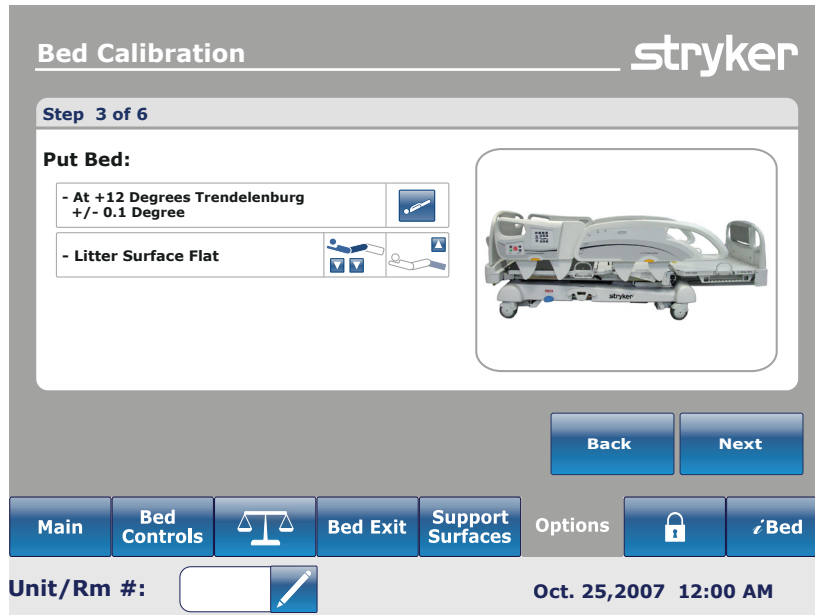

Figure 13: Bed Calibration - Step 3
- When step 2 of the calibration procedure has completed, step 3 of the calibration procedure will begin and Figure 13 as shown below will appear on the screen.